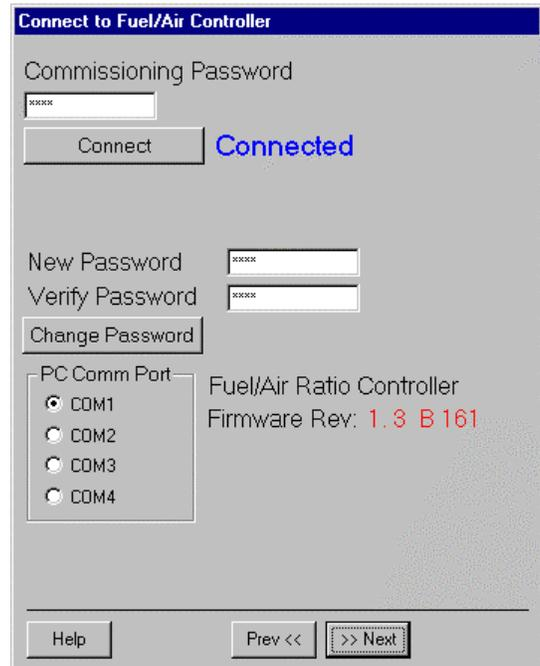

Fig. 5. Connected.
- b. **Connect** Press after you have entered a valid password and selected the PC Comm Port. (Fig. 5) See "How to Connect to the PC Comm Port."
- e. **PC Comm Port** Select the communications port that the R7999 is connected to. See "How to Connect the R7999" in the specification sheet (Fig. 5).